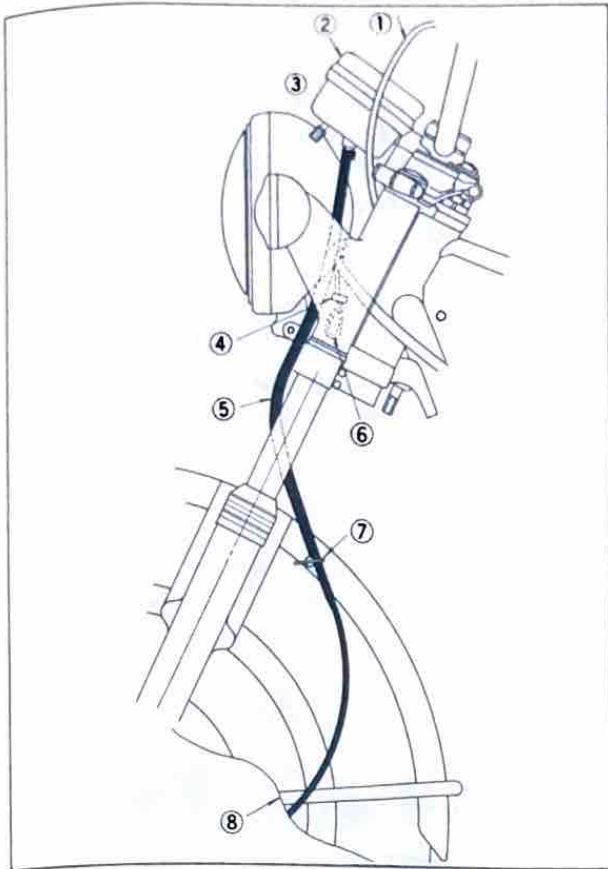

Fig. 21
14. Connect the speedometer cable to the speedometer. For detailed cable routing, refer to illustration. (Fig. 21)